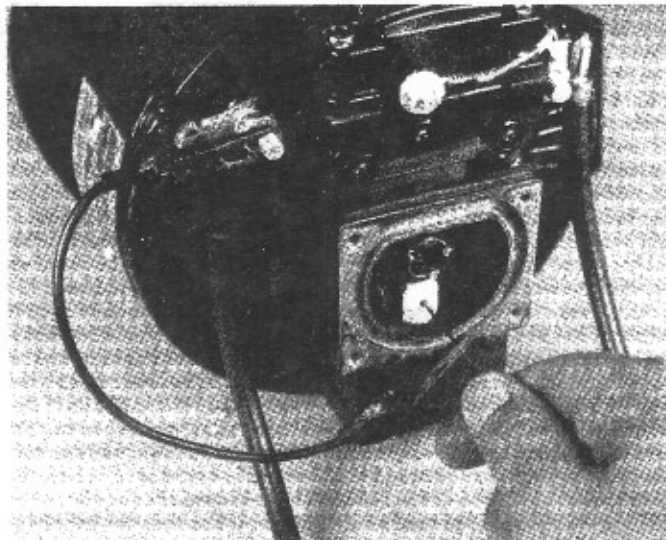

Figure 2
- 1.3 Remove four 10-32 hex head screws from cover plate and insert the shank of a 1/16" drill bit (or a paperclip) in brush holder access hole. Fig. 2.